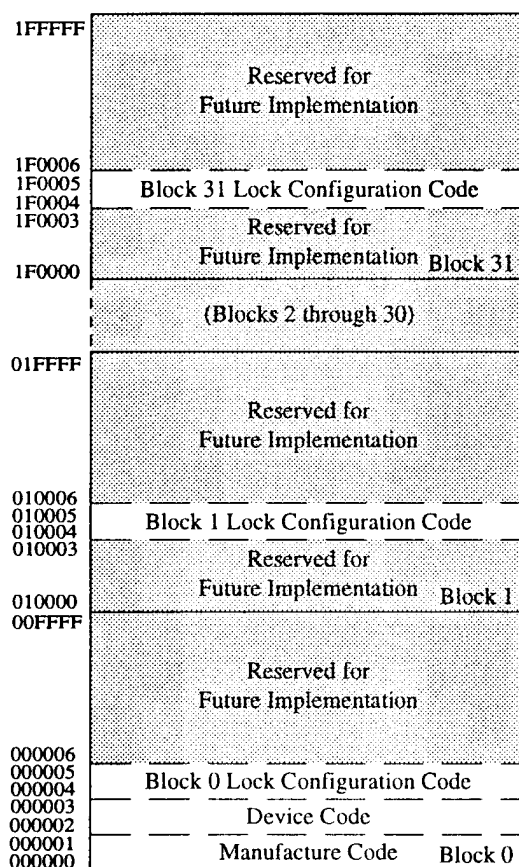

Figure 2. Device Identifier Code Memory Map
The read identifier codes operation outputs the manufacturer code (Block 0), device code (Block 0), and block lock configuration codes (for each block), see Figure 2. Using the manufacturer and device codes, the system CPU can automatically match the device with its proper algorithms. The block lock codes identify locked and unlocked blocks. This card is can not lock bit configuration.
IA = Identifier Code Address: see Figure 2.
The host initiates the identifier code operation by writing the Read Identifier Codes command. Following the command write, read cycles from addresses shown in Figure 2 retrieve the manufacturer, device and block lock configuration codes (see Table 3 for identifier code data). To terminate the operation, write another valid command. Although Table 3 lists the device code as D0D0, other Sharp's Flash Memory Miniature Card could also have device codes AAAA, A6A6 or A7A7. Host software should check for all four cases for compatibility with future cards.
• Block is Locked (3)		$D_{0,8} = 1$
1.  $\times$  selects the specific block status code to be read. See Figure 2 for the device identifier code memory map.